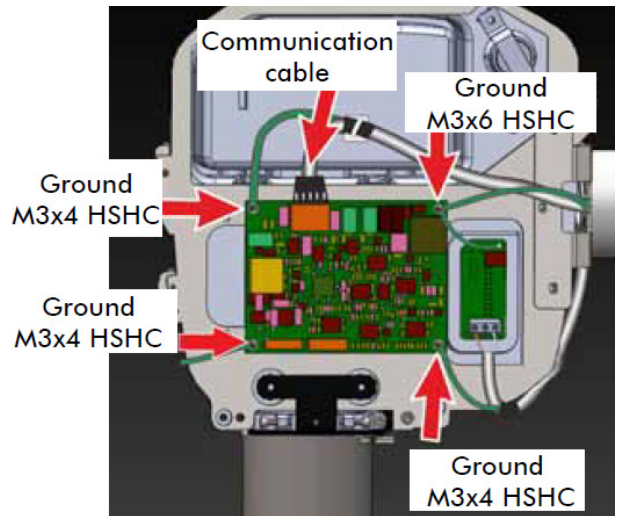

Figure 51
- Press the connector locking tab and pull the cable connector (communication cable) connected to J4 connector of the control board as shown in the Figure 51 .
- Disconnect the INV power cable from the sealing board 3 pin connector-pins 1 & 3 (hold the connector firmly by hand while removing) using Jewel screw driver as shown in the Figure 51 .
- Remove the screws used for GND wire connections for both cables at all 4 corners of the Control board using 2.5MM Allen key as shown in Figure 51 .
- Fix the new Control Board by connecting J3 connector of control board to J3 connector of sealing board and fix the scissor-arm earthing cable and sealing board earthing wires(Ring terminals) to the nearest control board fixing screw(M3x6 HSHC) using 2.5 mm allen key as shown in Figure 51 .
- Connect the INV power cable to the sealing board 3 pin connector (Non polarised pin terminal wires to pins 1 & 3) using Jewel screw driver as shown in Figure 51 (Hold the connector firmly while tightening the terminal screws) and fix its GND ring terminal to the nearest control board fixing screw(M3x4-HSHC) using 2.5mm allen key as shown in the Figure 51 .
- Route the communication cable and connect it to the J4 connector of the control board as shown in Figure 51 and fix its ground ring terminal to the nearest control board fixing screw(M3x4 HSHC) as shown in the Figure 51 .
- Fix the tube head ground ring terminal(near the collimator) with M3x4 HSHC screws on the control board using 2.5 mm allen key as shown in Figure 51 .